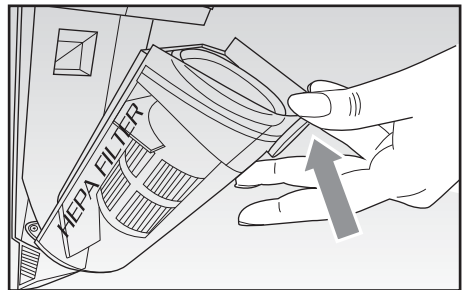

Fig. 8
- Press the unlocking button and remove the complete container (Fig. 8).